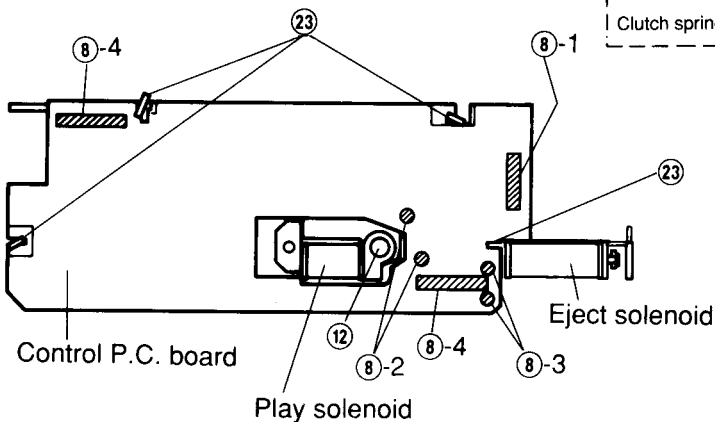

Figure 11
- (2) Remove solder ⑧-1, and remove the parallel wire (5P) from the control P.C. board as shown in Figure 11.
- (1) Remove the two solders (8-2) as shown in Figure 11.
- (2) Remove one screw (12) and remove the solenoid as shown in Figure 11.
- (3) Mount the new solenoid following the removal steps in the reverse order.
- (1) Remove two solders (8-3). Take care not to loose the tube that protects the wire. (Refer to Figure 11.)
- (1) Remove seven solders ⑧ and remove the three parallel wires and the wires of the eject solenoid and of the play solenoid as shown in Figure 11.
- (2) Remove five claws ②③ and remove the P.C. board as shown in Figure 11. [For GR75E Series model] Remove four claws ②③ and remove the P.C. board as shown in Figure 11. [For GR75L Series, GR-Y Series, GR75H Series models]
- (3) After replacing the old P.C. board with a new one, mount it following the removal steps in the reverse order.